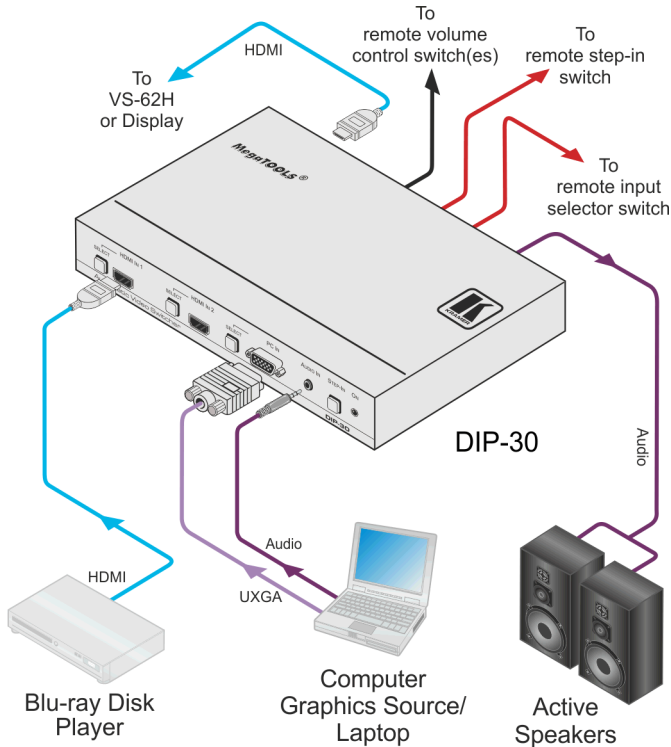

Figure 3: Connecting the DIP-30
To connect the DIP-30 as illustrated in Figure 3:
9. Connect the power adapter to the **DIP-30** and to the mains power, (not shown in Figure 3).